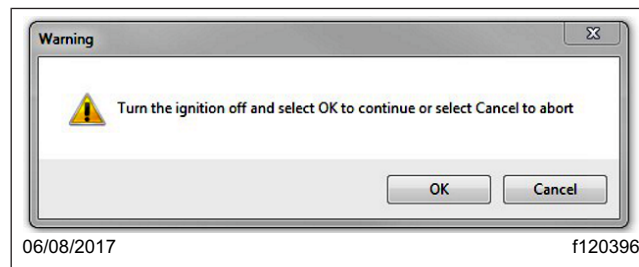

Fig. 14, Warning Message, Turn Ignition Off
23. A message will appear stating to turn the ignition off and ask for permission to continue. Turn the ignition to the "OFF" position, then select "OK." See Fig. 14.